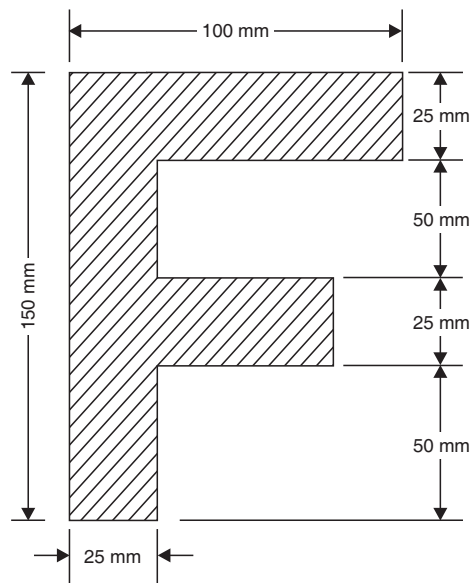

Fig. 4.52
15. Determine by calculation the position of the c.g. of the section shown in Fig. 4.52.